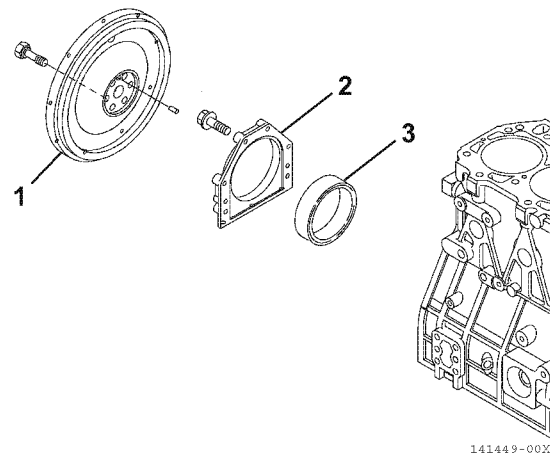

Figure 6-64
1. Remove the flywheel (1, **Figure 6-64**) from the crankshaft.
2. Remove the bolts from the rear oil seal assembly (2, 3, **Figure 6-64**). Remove the assembly from the engine.